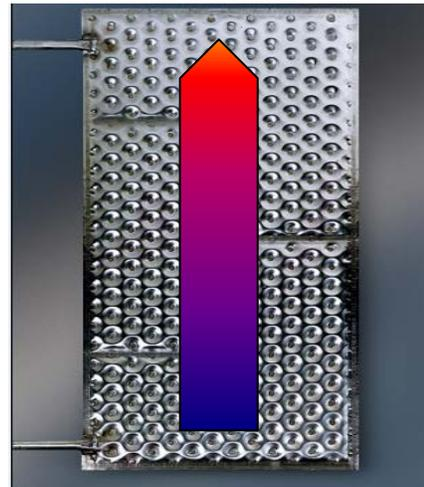

Figure 5 - Exchanger Plate showing counter-flow water
2. Counter Flow Design: true counter flow design is required on the water side to parallel the dew point curve to maximize thermal efficiency. To take advantage of this, the fluid connections to the plate are at the top and bottom. This arrangement is shown in Fig 5 opposite.